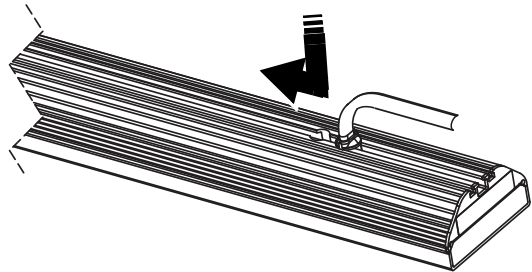

Figure 3: Inserting a bolt head or nut into the channel in a fixture
See Figure 3. To fasten brackets etc. to a fixture, pass each fastener through the cutout next to the cable tail and slide it into the channel. The channel holds the fastener captive so that you can tighten against it.
3. To install the safety cable attachment bracket, pass a captive nut through the cutout shown in Figure 3 on page 15 and into the channel in the back of the fixture. Slide the nut along the channel to the center of the fixture.
4. Pass the bolt heads **I** through the cutout and into the channel in the rear of the fixture (see Figure 3 on page 15) and slide the bracket to its correct position, then tighten the nuts **G** to a torque of 8 Nm.